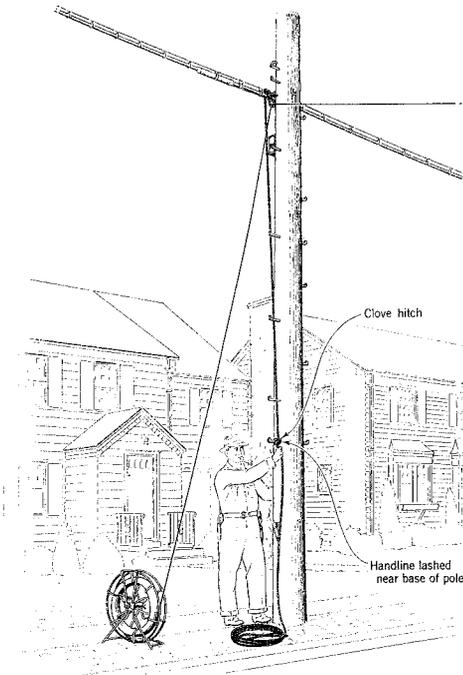

Fig. 4 – Drop Wire Raised to Approximate Height
(8) After the drop wire has been raised to the approximate required height, lash the handline near the base of the pole or, at a span clamp, to the lower rungs of the ladder (see Fig. 4).